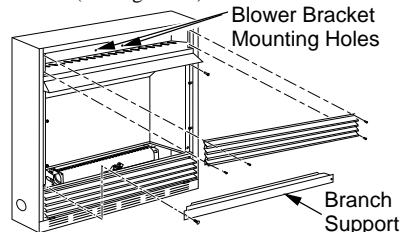

Figure 14 - Removing Top Louver and Branch Support
2. Remove 2 screws from each side of branch support and pull branch support out (see Figure 14).
3. Remove 4 screws from upper louver assembly (see Figure 14). Save these screws.
Note: When switch is in the AUTO position, the fan will start after the fireplace has run for a few moments. The fan will continue to run for several moments after the fireplace has been turned off. When switch is in the ON position, the fan will run until turned off. Reinstall upper louver assembly (see Figure 14, page 13) and branch support. Close lower louver door.
- Reinstall upper louver assembly (see Figure 14, page 13) and close lower louver.